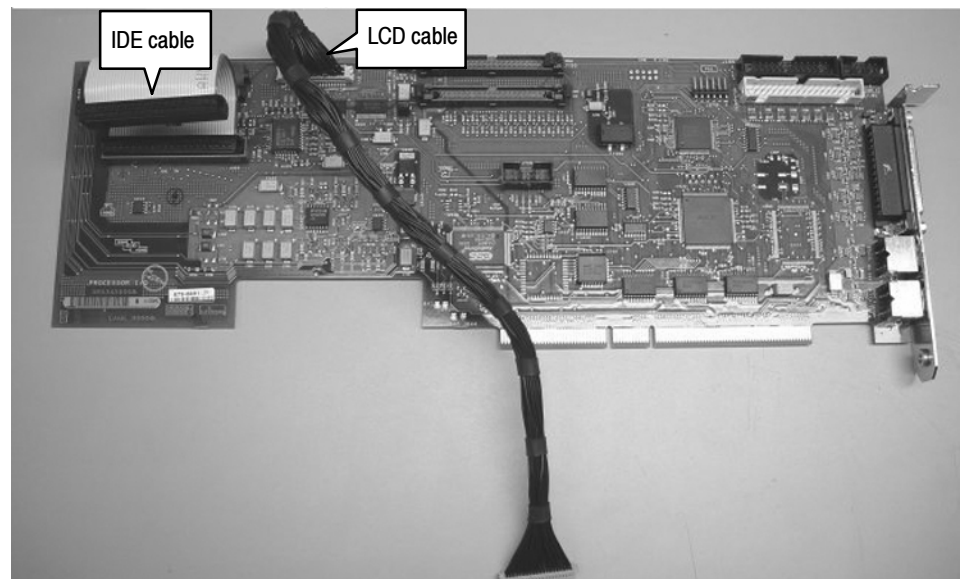

Figure 8: Connecting IDE and LCD cables to the I/O board
1. Connect new IDE Cable (174-4825-xx) from the kit to J320 “IDE IN” on the new I/O board supplied in the kit, as shown in Figure 8.
2. Connect the new LCD Cable (174-4823-xx) from the kit to J130 “LCD IN” on the new I/O board, as shown in Figure 8.